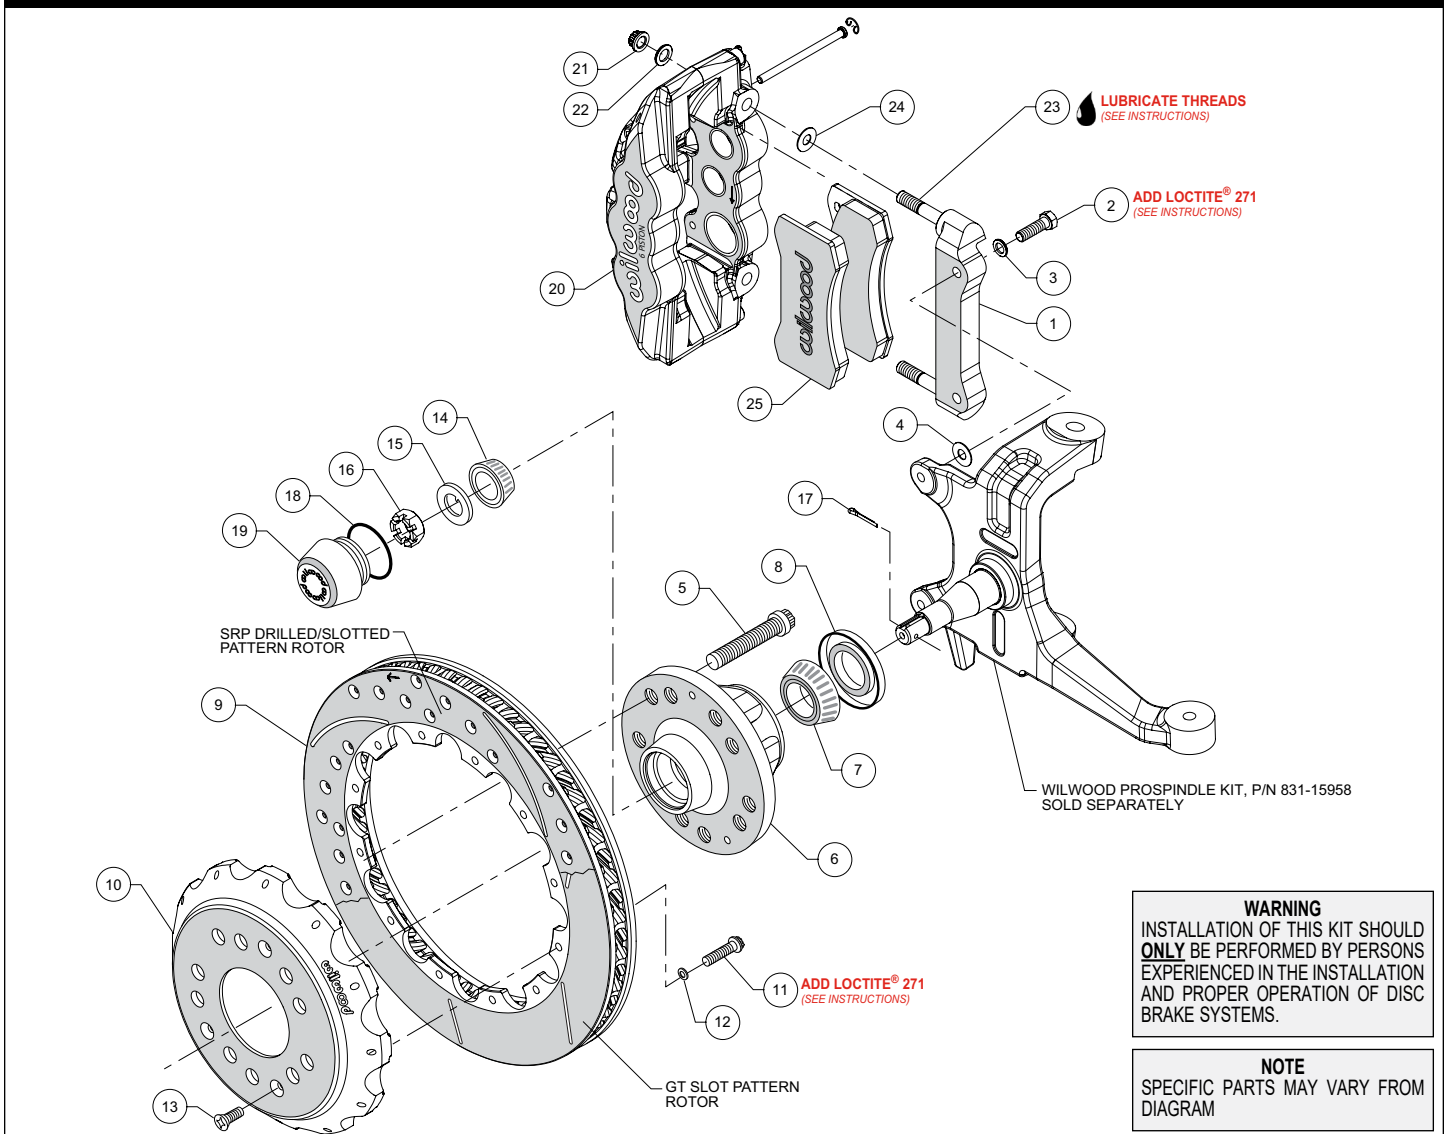
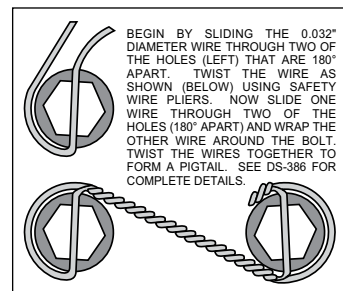

Figure 1. Typical Installation Configuration
Figure 3. Safety Wire Diagram
**NOTE:** Numbers in parenthesis refer to the parts list and Figure 1 on the preceding pages.
- The caliper mount bracket (1) should initially be installed with clean, dry threads on the mounting bolts. Orient the bracket as shown in Figure 1, and install using bolts (2) and washers (3). Initially place one .035" thick shim (4) on each bolt between the bracket and spindle, Figure 1 and Photo 1. Temporarily tighten the mounting bolts. **NOTE:** *The bracket must fit squarely against the mounting points on the spindle.* Inspect for interference from casting irregularities, machining ridges, burrs, etc. Later, after the caliper alignment has been checked, the mount bolts will be secured using red *Loctite*® 271.
- Screw dust cap (19) into hub (6). Friction created by the o-ring (18) on the dust cap keeps it from unscrewing. **NOTE:** The O.D. of the existing OEM spindle washer may be larger than the I.D. of the dust cap not allowing it to seat against the hub face. Therefore, use the spindle washer (15) supplied with the kit instead of the OEM washer.
- Orient the rotor (9) and the hat (10) as shown in Figure 1 and Photo 5. Attach rotor to hat using bolts (11) and washers (12). Apply red *Loctite*® 271 to the bolt threads and torque to 155 **in-lb** using a criss-cross pattern. For an added measure of security, the bolts may be safety wired using standard 0.032 inch diameter stainless steel safety wire as shown in Figure 3. Refer to Wilwood's data sheet DS-386 (available at [www.wilwood.com/Pdf/DataSheets/ds386.pdf](http://www.wilwood.com/Pdf/DataSheets/ds386.pdf)) for complete safety wire installation instructions.
•**NOTE:** This kit contains distinct right and left hand calipers that must be mounted in a specific direction, as described below. Lubricate the caliper mounting studs (23) with lightweight oil. Initially place one .030" thick shim (24) on each stud between the caliper and the bracket, as shown in Figure 1 and Photo 7. Mount the caliper (20) onto the bracket (1) using lock nuts (21) and washers (22), Figure 1. Temporarily tighten the lock nuts. Ensure that the caliper is mounted so the largest pistons are at the rotor exit end of the caliper, in relation to the direction of the rotor. View the rotor through the top opening of the caliper. The rotor should be centered in the caliper, Photo 8. If not, adjust by adding or subtracting shims (4) between the bracket and the spindle. Always use the same amount of shims on each of the two mounting bolts. Once the caliper alignment is correct, remove the bracket mounting bolts (2) one at a time, apply red Loctite® 271 to the threads, and torque to 40 ft-lbs.
•Remove the caliper (20), then remove the two pad retaining pins from the caliper by carefully popping out the pin retaining clips and sliding out the pins. Insert the brake pads (25) into the caliper from the bottom, Figure 1 and Photo 9. With the friction material facing the rotor, secure the brake pads in place with the pad retaining pins and clips, Photo 10. Reinstall the caliper onto the caliper mounting bracket and temporarily tighten the lock nuts. Check that the top of the brake pad is flush with the outside diameter of the rotor, Photo 11. If not, adjust by adding or subtracting shims (24) between the caliper and the bracket. After the caliper pad height is set, torque the caliper lock nuts (21) to 47 ft-lb.